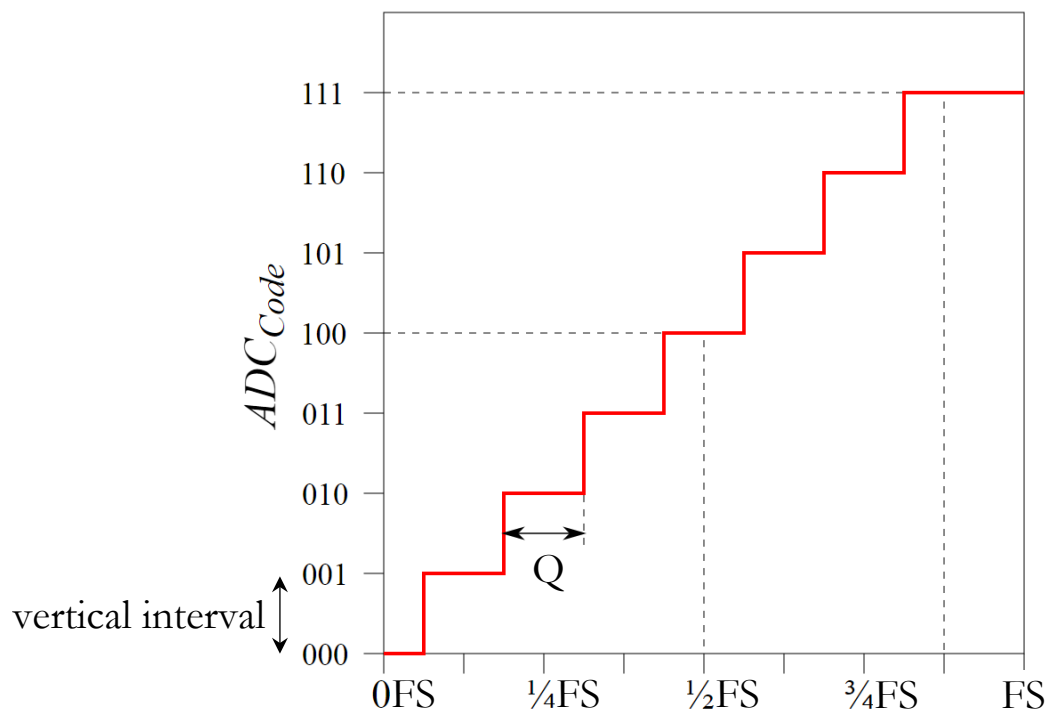

Figure 3: Ideal 3-bit ADC
Figure 3 below shows how the analog signal is mapped to a discrete/binary value using an ideal ADC. The x-axis represents the analog value. This starts at the lowest analog value (0 FS) and ends at the full-scale analog value (FS). For example, if an analog signal varies from 0 to 8 V, the lowest analog value is 0 V, the full-scale analog value (FS) is 8 V, and the full-scale measurement range is 8 V. Similarly, if the analog signal varies from -10 to +10 V, the x-axis will vary from -10 V (i.e. 0 FS), +10 V (i.e. FS), and the full-scale measurement range is 20 V. The y-axis represents the binary code that is given to each analog value. The number of codes/levels is dependent on the bit number of the ADC, as seen in the equations above. Figure 3 shows a 3-bit ADC which results in eight discrete levels (number of levels equals  $2^3$  for a 3-bit ADC); however, there are only seven vertical intervals ( $2^3 - 1$ ).